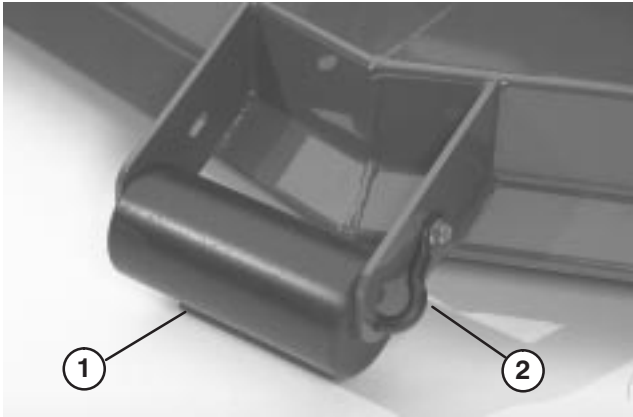

Figure 14
To adjust front roller (Fig. 14):
1. Remove capscrew and nut securing roller shaft to cutting unit bracket (Fig. 14).